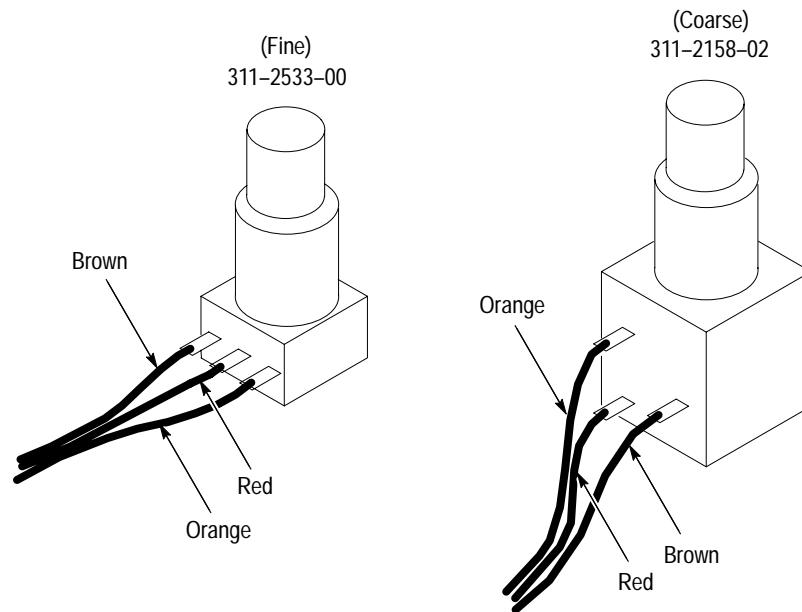

Figure 20: Potentiometer Connections
3. Resolder the wires as Figure 20 illustrates.